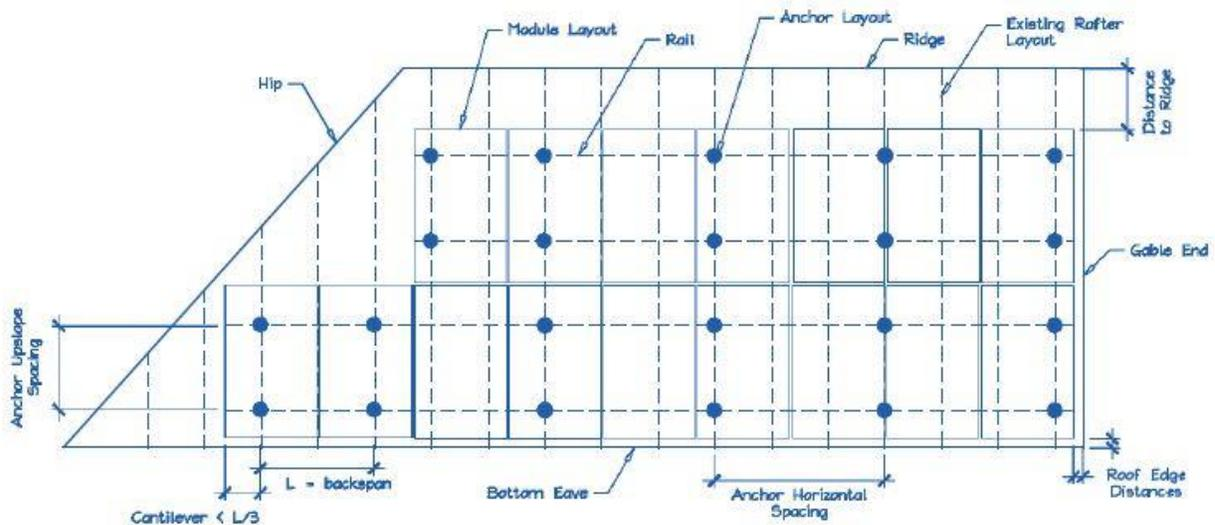

Figure 2 Sample Solar Panel Array and Anchor Layout Diagram (Roof Plan)
E. Is a roof plan of the module and anchor layout attached? (see Figure 2)
- 1) Proposed anchor horizontal spacing (see Figure 2): _____ ' - _____ "ft.-in
1. Anchors are also known as "stand-offs," "feet," "mounts" or "points of attachment." Horizontal anchor spacing is also known as "cross-slope" or "east-west" anchor spacing (see Figure 2).